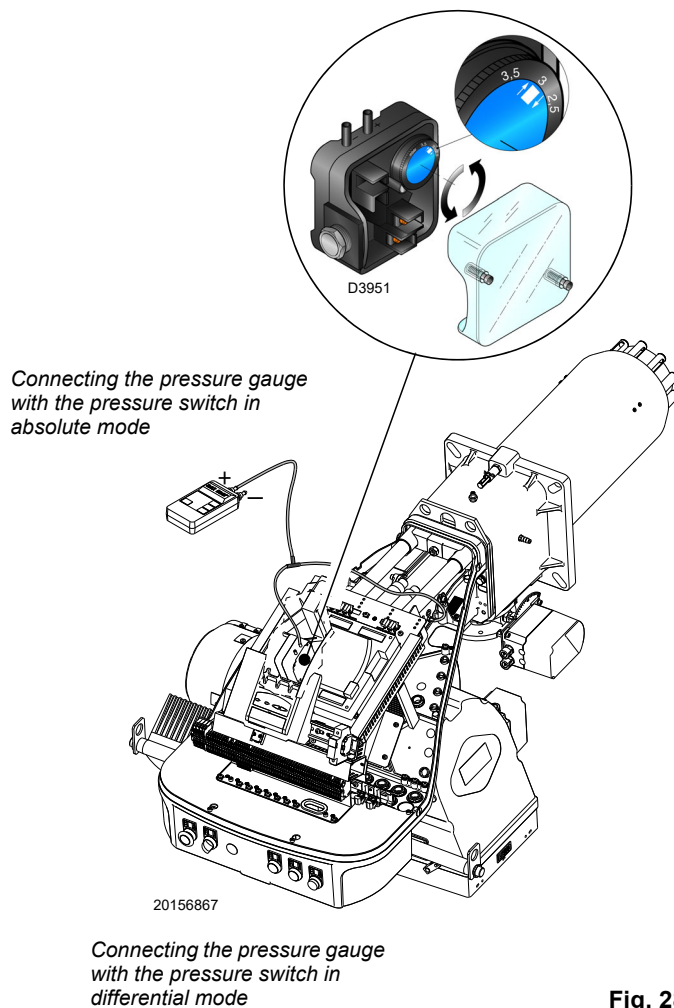

Fig. 28
- Adjust the air pressure switch (Fig. 28 at page 31) to the start of the scale.
Adjust the air pressure switch (Fig. 28) after having performed all other burner adjustments with the air pressure switch set to the start of the scale.
The connection of the pressure gauge is shown in Fig. 28. The standard configuration is that with the air pressure switch connected in absolute mode. Note the presence of a "T" connection, not supplied.
In this case also, the pressure gauge must be connected in differential mode, as shown in Fig. 28.